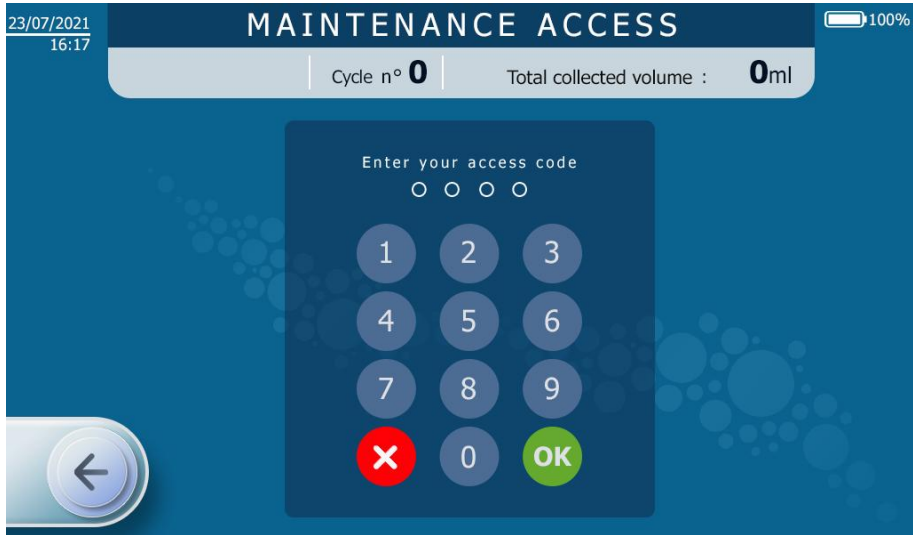
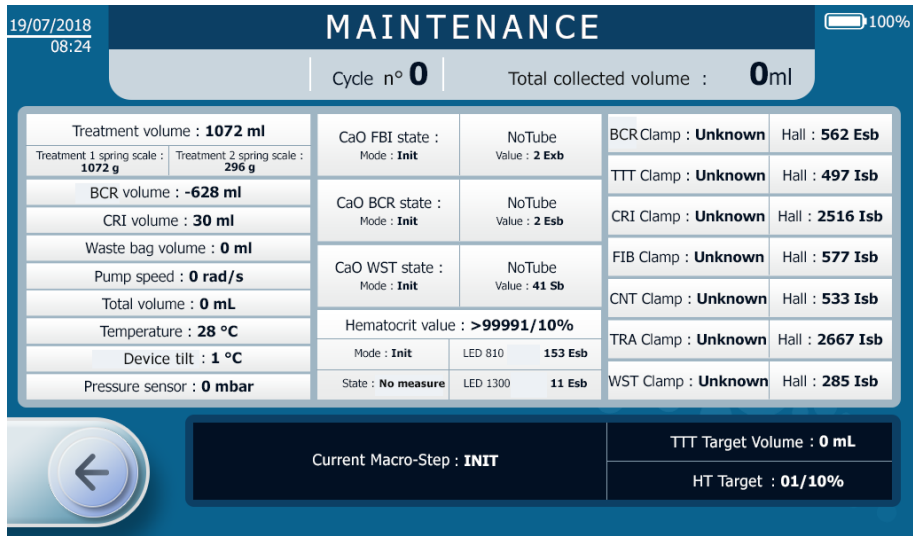

Figure 149: Access code required to access the maintenance mode
Figure 150: Example of maintenance screen
- Only the maintenance personnel authorised by i-SEP can access this section with a specific access code (See Figure 149 and Figure 150).